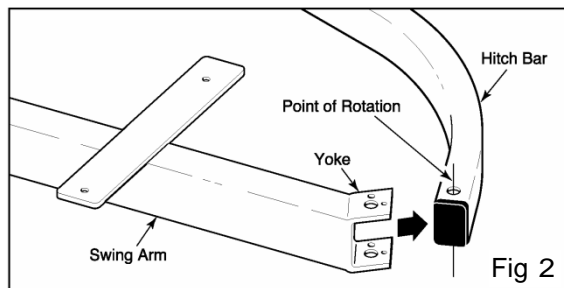
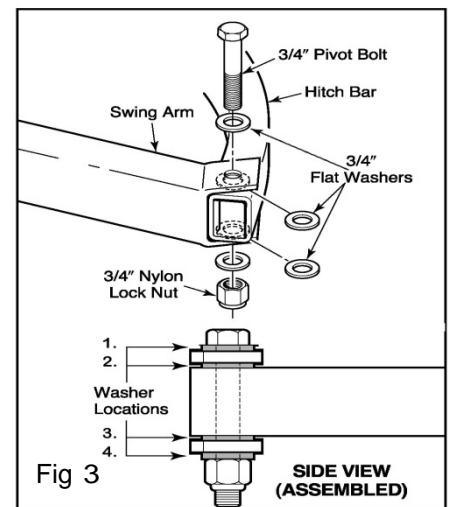

Fig 2
Fig 3
- Fit the swing arm yoke over the point of rotation on the hitch bar. See Fig 2. Locate the four large flat washers. Position the top two washers as shown in Fig 3 and insert the pivot bolt through the yoke and the hitch bar. If you have room, locate the third washer between the bottom of the hitch bar and the yoke, as shown in Fig 3. If you do not have room, leave this washer out. Add the fourth washer to the end of the pivot bolt after it has pushed through the bottom of the yoke. Tighten the nylon lock nut onto the pivot bolt until the swing arm swings freely, yet with light resistance. The nut must be tightened snugly to the bottom of the yoke.